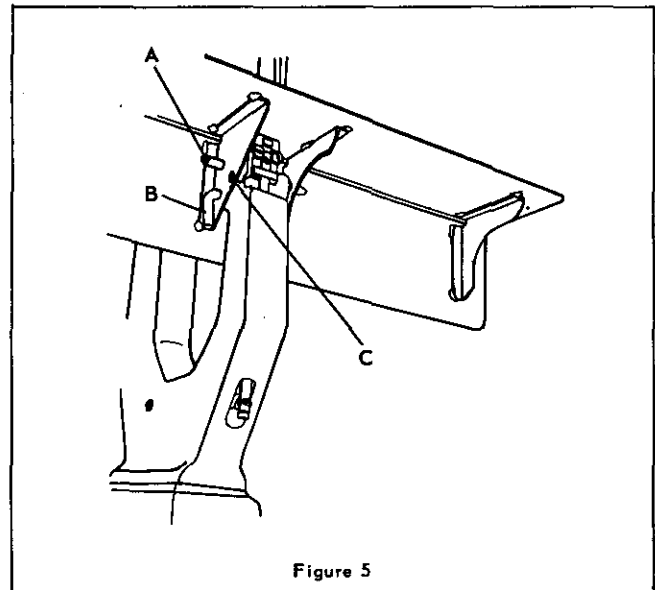

Figure 5
**Setting Up Machine for Stitching: (Figure 5)**